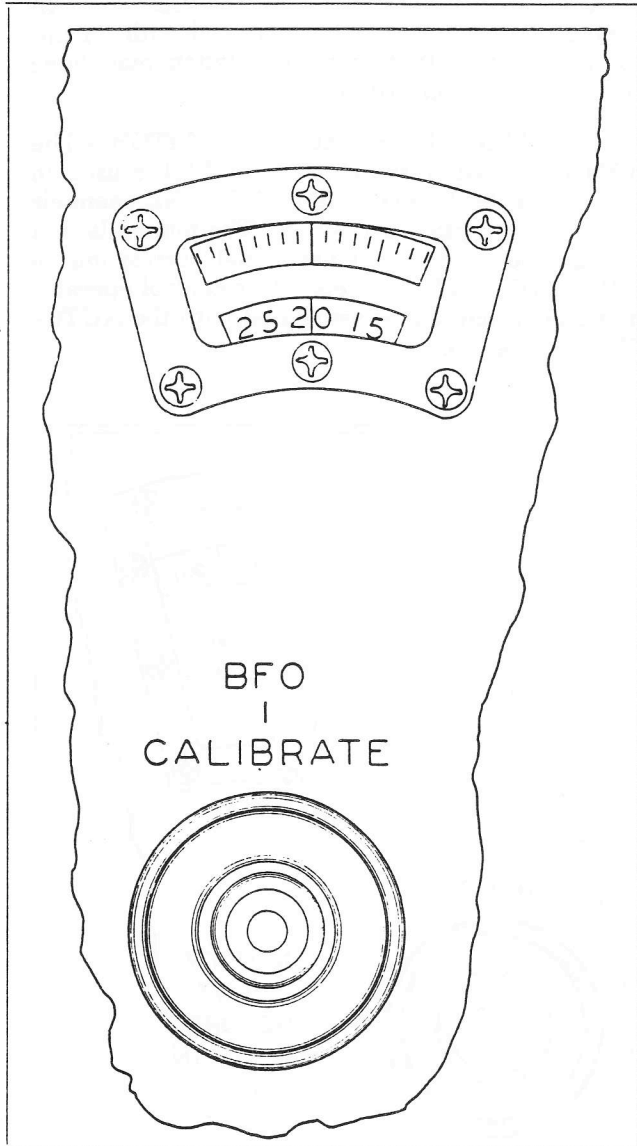

Figure 2-8. Calibrate and BFO Details
(4) BFO-CALIBRATE CONTROL.—This receiver has been provided with a system of calibration that permits the tuning of the receiver circuit to any exact frequency without having to tune for an incoming signal. The BFO-CALIBRATE control, (figure 2-8,) tunes the three i-f transformers and the beat frequency oscillator grid tank circuit by changing the positions of slugs within the inductors. The operation of this control also applies plate and screen voltages to the cfi (crystal-controlled frequency indicator,) oscillator tube, grounds the antenna terminal of the receiver, connects the output of the cfi oscillator to the input circuit of the receiver,